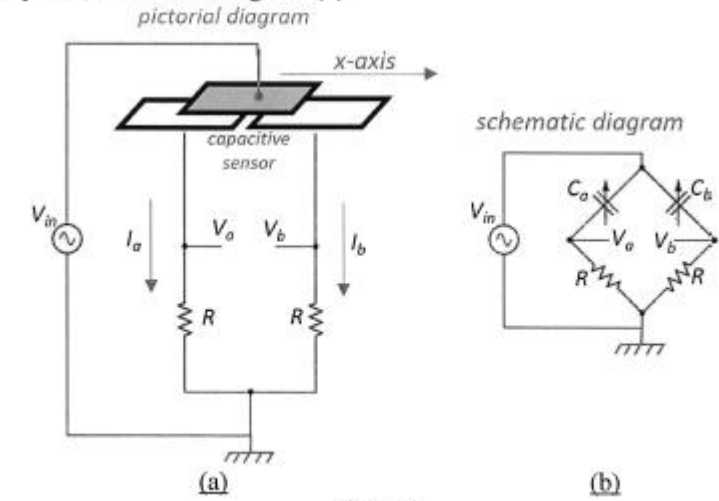

Figure 1
3. A capacitive sensor and its relative bridge measurement circuit are represented in Figure 1. The sensor consists of three rectangular and conductive plates of similar length  $L$  (along the  $x$ -axis) and width  $W$ . One moving plate (grey colour in Figure 1) can slide back and forth, along the  $x$ -axis, on top of two fixed plates (white colour in Figure 1(a)). When the grey plate is in its 'zero' position ( $x=0$ ), the system is in a symmetric configuration, i.e. it overlaps equally with both fixed plates (half of the area overlaps). Assume that the capacitance between two plates is proportional to the overlapping area, with a maximum value  $C_0$  when their area fully overlaps.
Electrically, this system of capacitances is in a bridge configuration, with two similar resistors  $R$  connected to the fixed plates as in Figure 1. The bridge is driven by an AC voltage source  $V_{in}$  and the output  $V_{out} = V_b - V_a$  is voltage difference between the two fixed plates, as shown in Figure 1(b).